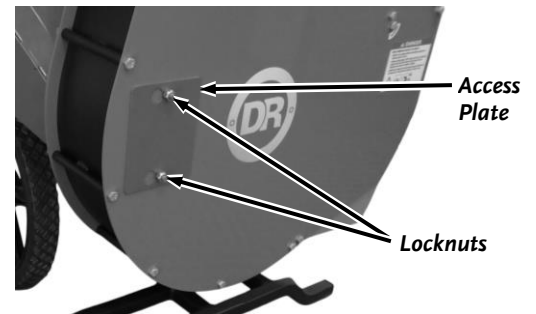

Figure 25
3. Loosen the Locknuts on the Access Plate using a 1/2" Wrench, slide the Plate to the side to align the holes with the Locknuts, and remove the Access Plate (**Figure 25**).